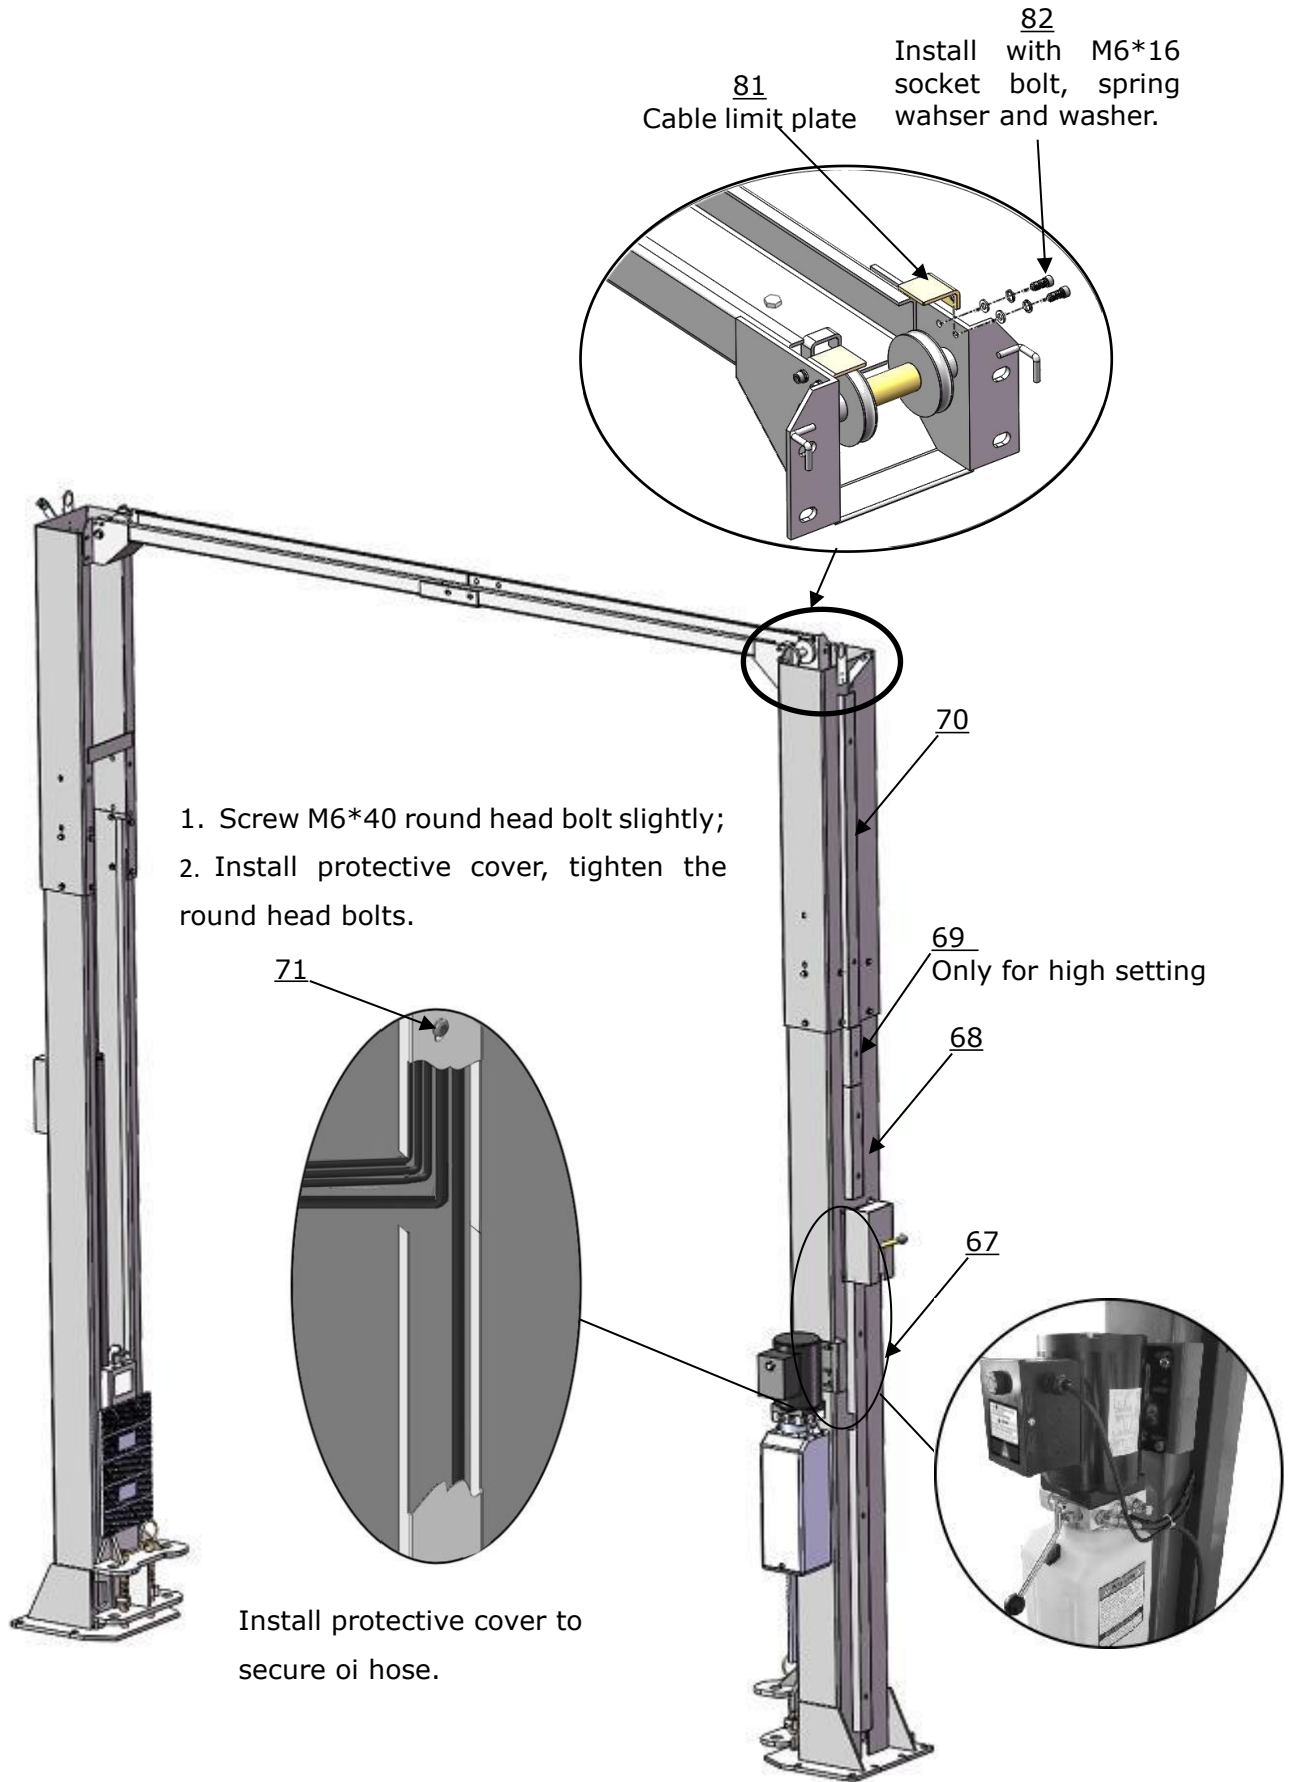

Fig.32
M. Install protective cover. (Fig.32)